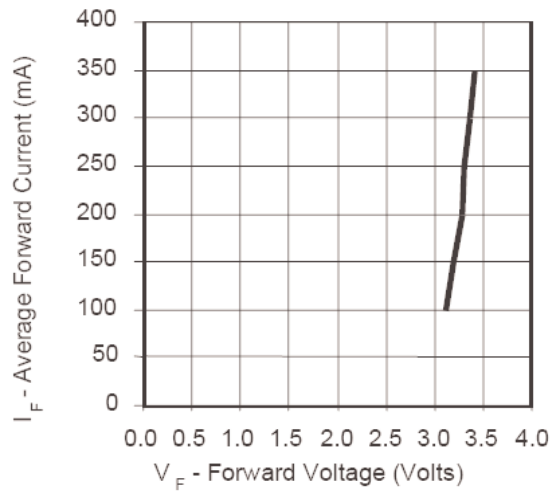

Figure 3a. Forward Current vs. Forward Voltage.
2. Dynamic resistance is the inverse of the slope in linear forward voltage model for LEDs. See Figures 3a and 3b.